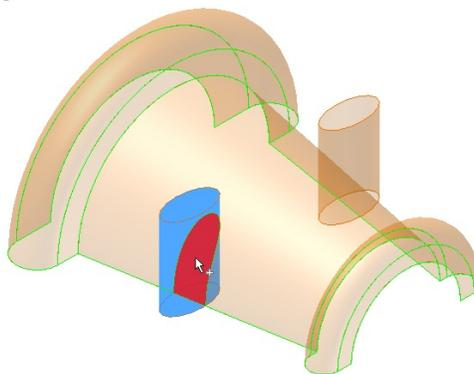

Figure 14-56 Trimming the base surface
- d. Split surfaces using the **Face Split** option, refer to Figure 14-56.
2. Select the portion common between the base surface and the extruded surface as the portion to be trimmed, as shown in Figure 14-56. Choose **OK** from the dialog box.